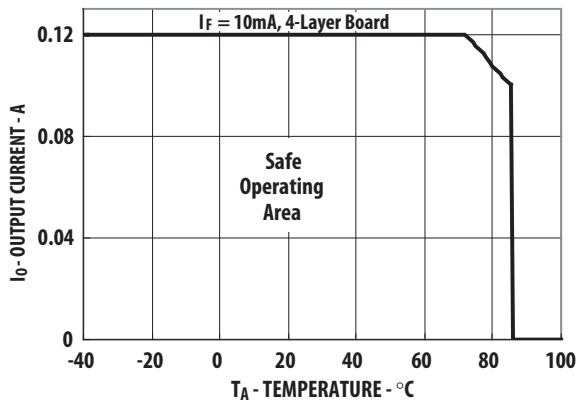

Figure 1. Maximum Output Current Rating vs Ambient Temperature (ASSR-4110-003E)
- For derating, refer to Figure 1, 2, 3 and 4.
Figure 1, 2, 3 and 4 specify the maximum average output current allowable for a given ambient temperature. The maximum allowable output current and power dissipation are related by the expression  $R_{ss} = P_o(\max)/(I_o(\max))^2$  from which  $R_{ss}$  can be calculated. Staying within the safe area assures that the steady state MOSFET junction temperature remains less than 125°C.